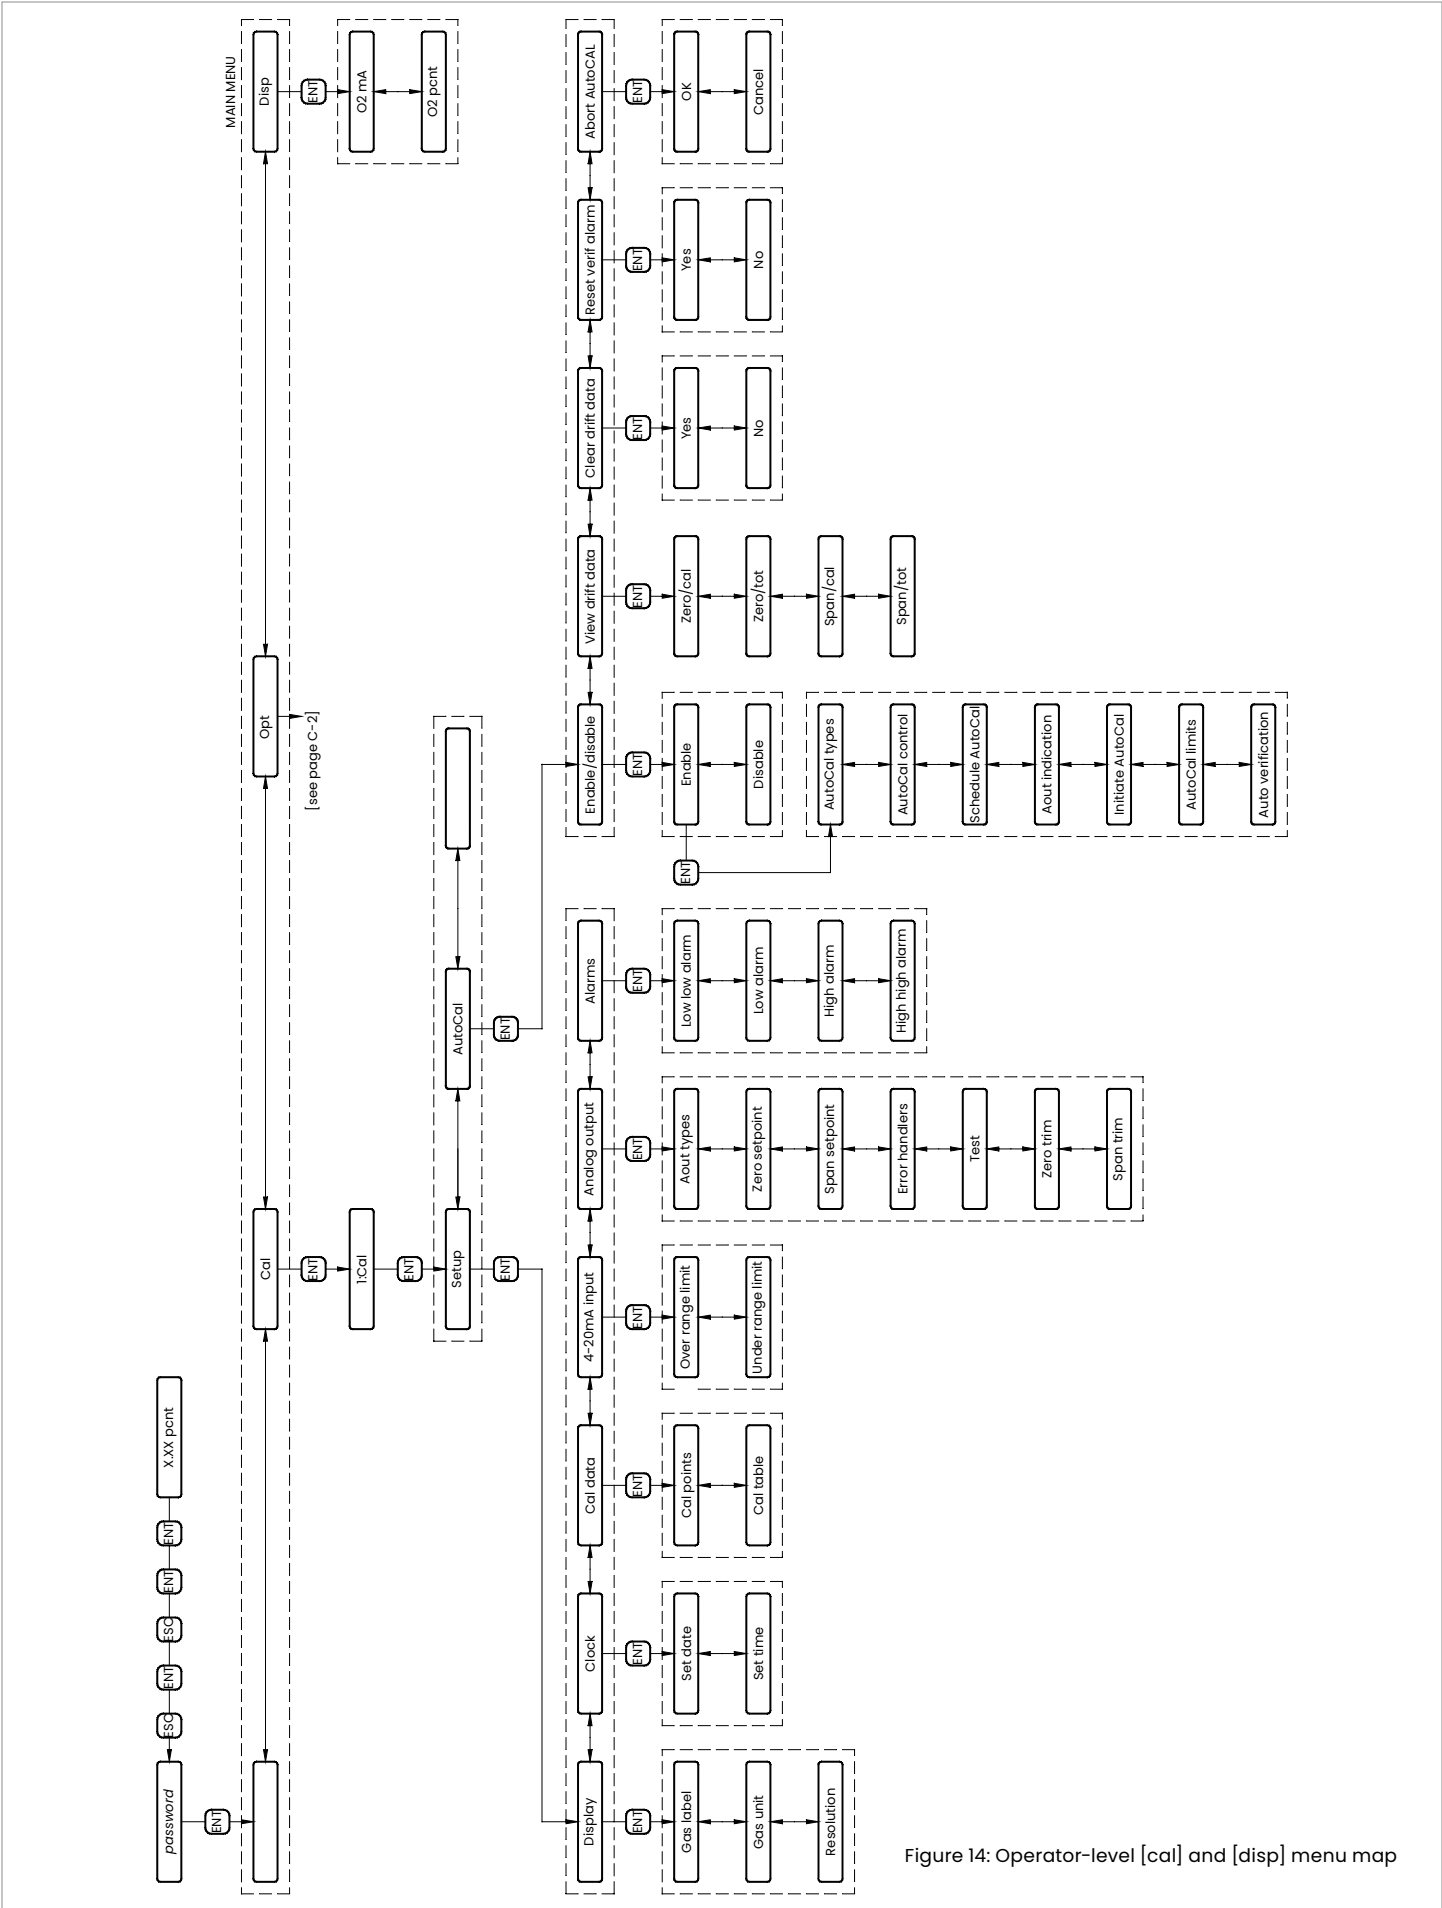

Figure 14: Operator-level [cal] and [disp] menu map
- Operator-level [cal] and [disp] menu map "*Figure 14*" on page 44